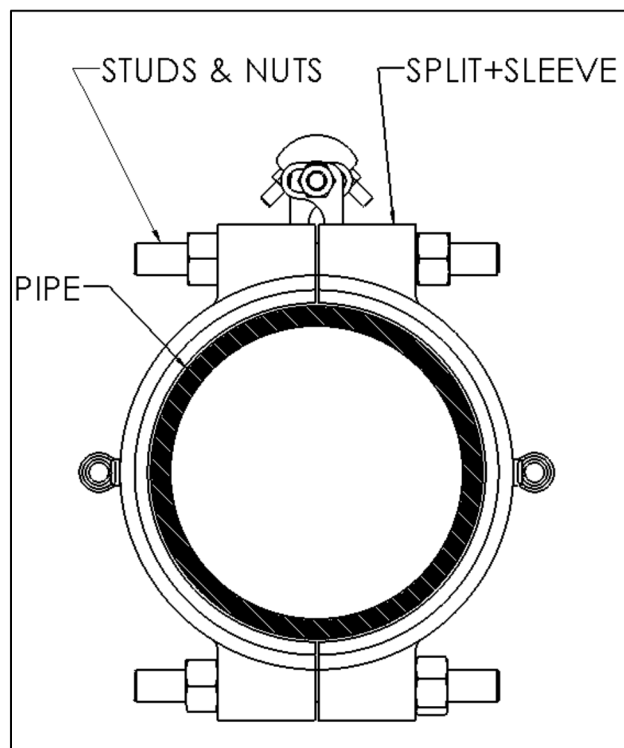

Figure 13
6. Once the fitting is wrapped around the pipe, insert the studs through the holes and thread on the nuts as shown in Figure 13. Proceed to tighten the studs and nuts per these installation instructions.